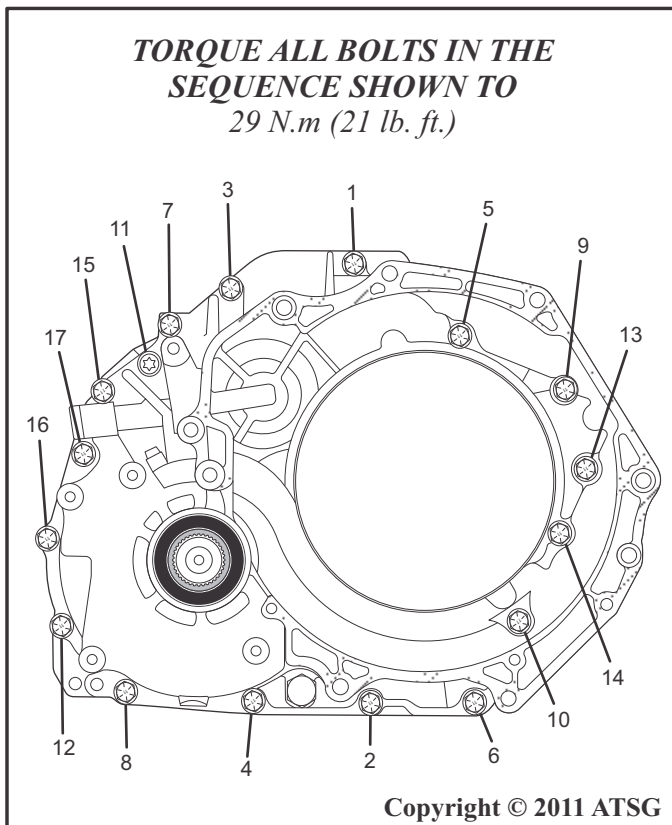

Figure 244
83. Torque the seventeen torque converter housing bolts to  $29\text{ N.m}$  ( $21\text{ lb. ft.}$ ) according to the sequence shown in Figure 244.